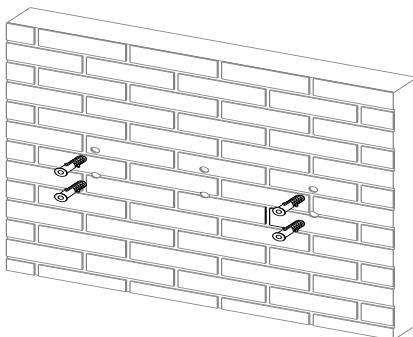
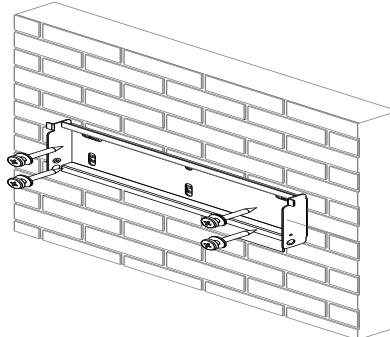

FIG.6-7 Install Expansion Anchors
FIG.6-8 Fix Wall-mounting Bracket
- 2) Drill expansion anchors into the corresponding four holes, and then secure the bracket by using screws, as per FIG. 6-7 & FIG. 6-8.